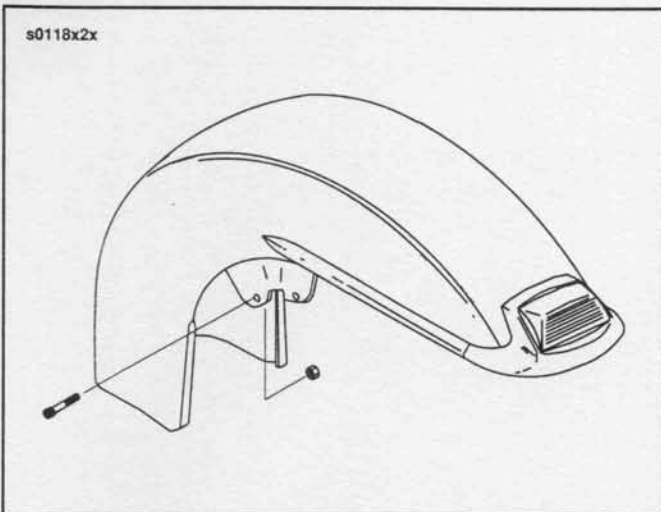

Figure 2-90. Front Fender – FLSTC
2. See Figure 2-90. Remove screws and flange nuts that hold fender in place. Disconnect fender tip lamp and remove fender.